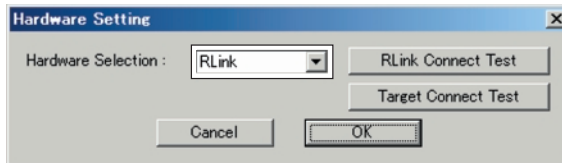

Fig. 4 Hardware Setting screen
- 7) Click the [HW Setup] button, and the following hardware setting screen appears. (Fig. 4)